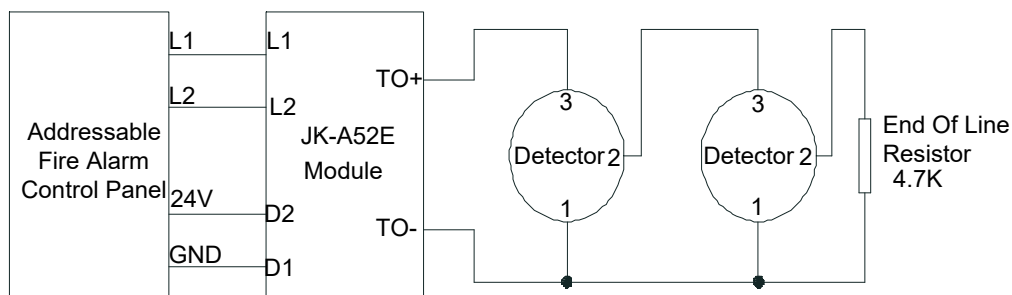
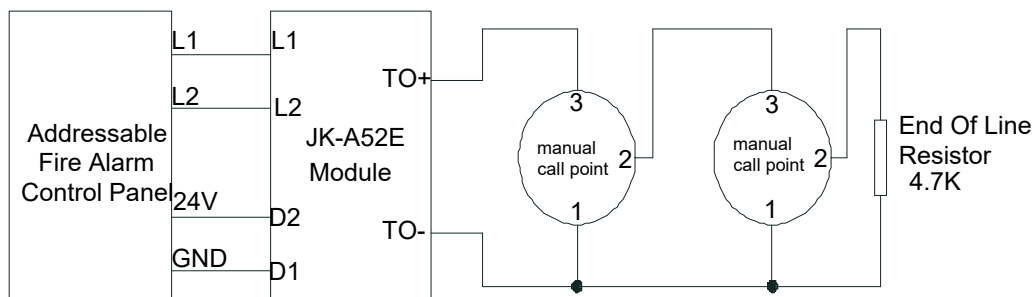

Figure 3
Figure 4
4.2 Connection mode 1: Connect the detector (as shown in Figure 3 below) :
4.3 Connection mode 2: Connect the manual call point(or fire hydrant button)(as shown in Figure 4 below):
- 5.3 Wire correctly as shown in Figure 3 or Figure 4;